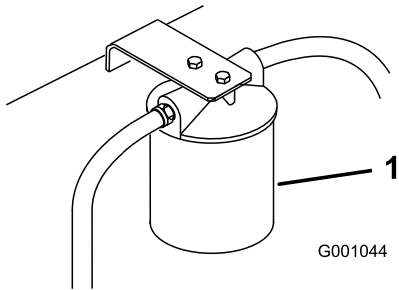

Figure 69
- Place drain pan under filter, remove the old filter and wipe the filter adapter gasket surface clean (Figure 69).